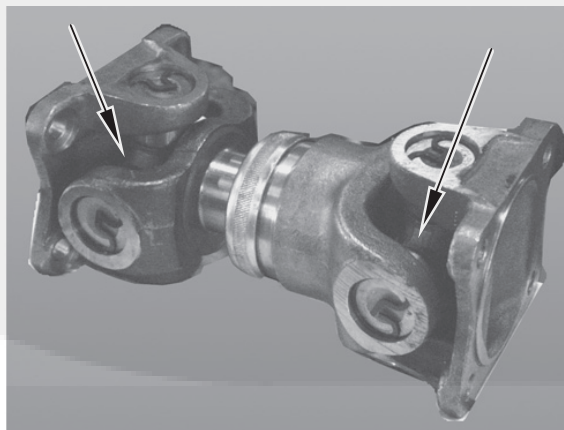

Figure 3-2 Drive shaft universal joint grease fittings
2. As illustrated in Figure 3-2, lubricate the grease fittings on the drive shaft universal joint.